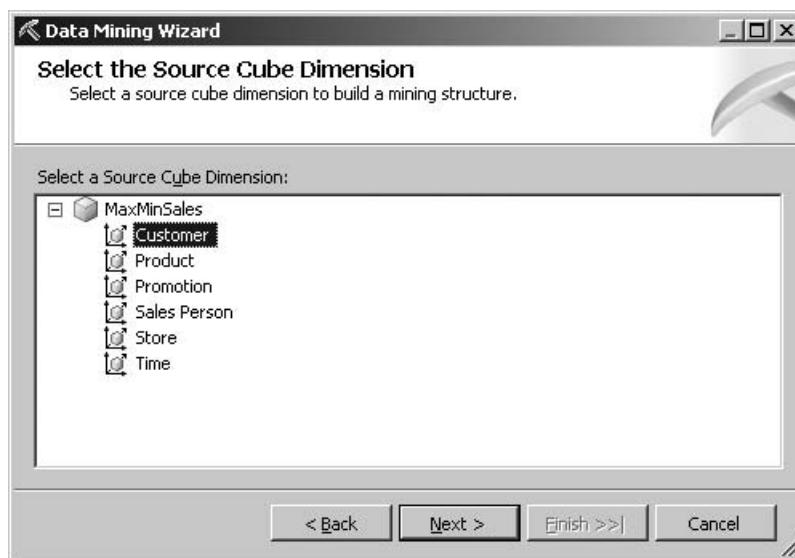

Figure 14-3 The Select the Source Cube Dimension page of the Data Mining Wizard
15. Select Microsoft Decision Trees from the drop-down list. Click Next. The Select the Source Cube Dimension page of the wizard appears, as shown in Figure 14-3.